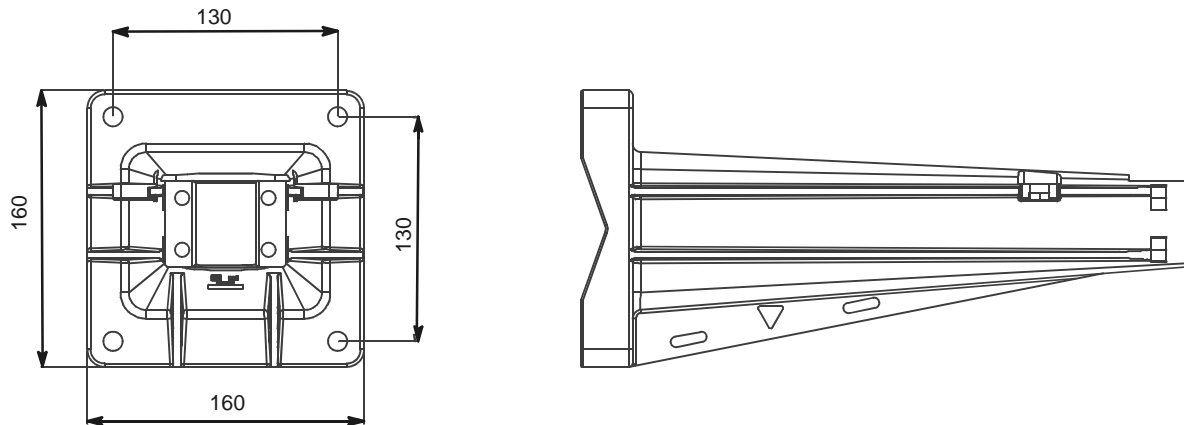
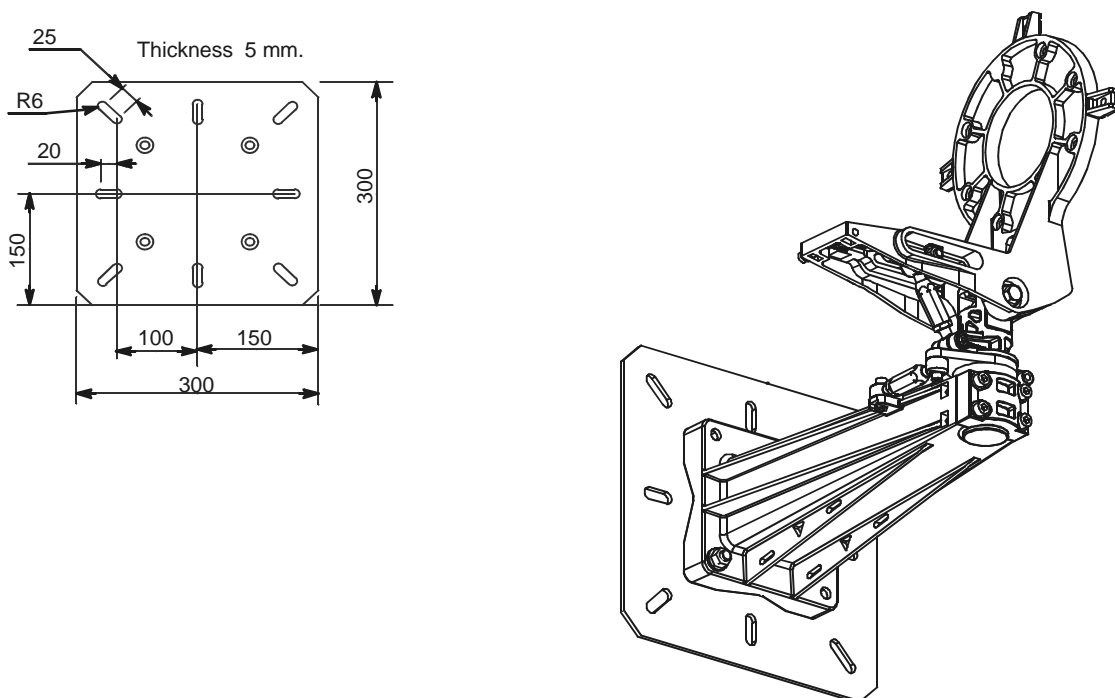

Figure 63 – Direct wall mounting
Figure 64 – Wall mounting option with mounting plate 9900UXI101
2. Drill 4 holes according to the dimensions given in *Figure 63 – Direct wall mounting*.
- Wall mounting possible with or without wall plate: see *Figure 63 – Direct wall mounting* and *Figure 64 – Wall mounting option with mounting plate 9900UXI101*.